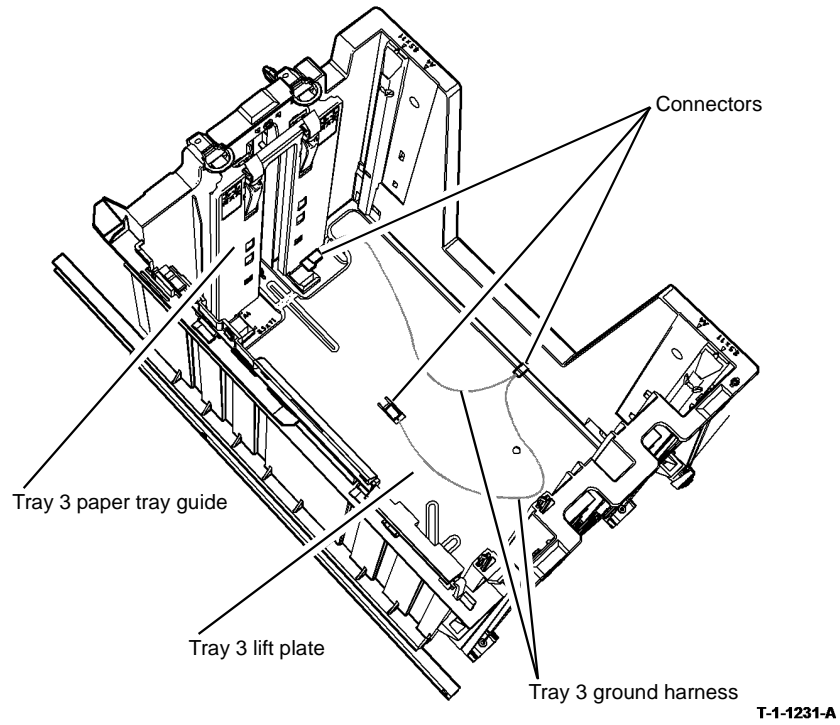
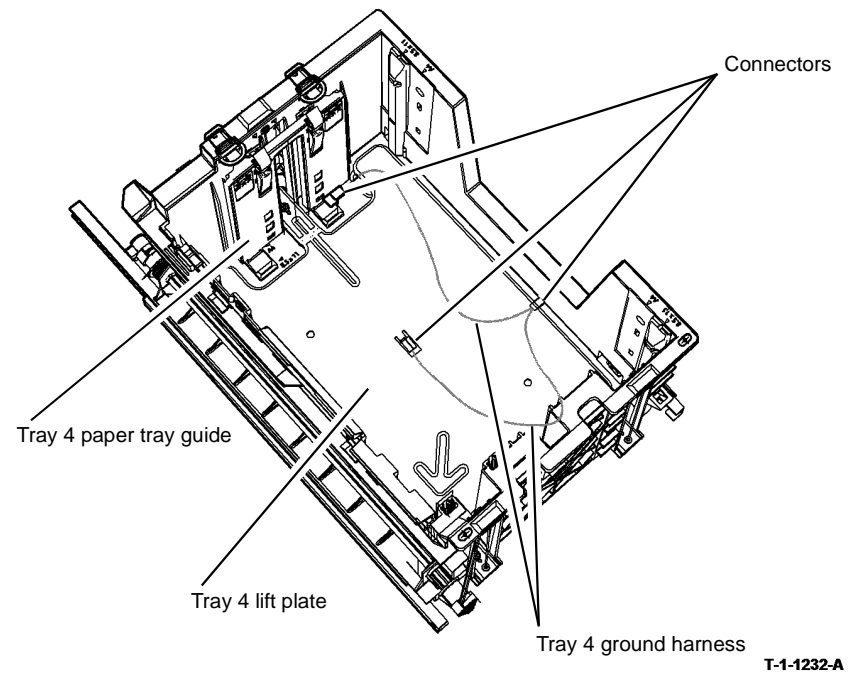

Figure 19 Tray 3 grounding
Figure 20 Tray 4 grounding
Refer to Figure 16, Figure 19 and Figure 20. Remove the tray 3 front cover, PL 7.26 Item 5 (4 screws). With tray 3 closed, check for continuity of less than 10k ohms between the following points and the main frame ground connection.
4. Empty tray 3 of paper. Refer to Figure 19, disconnect and clean the tray 3 ground harness connectors. Then install the removed components.
5. Empty tray 4 of paper. Refer to Figure 20, disconnect and clean the tray 4 ground harness connectors. Then install the removed components.